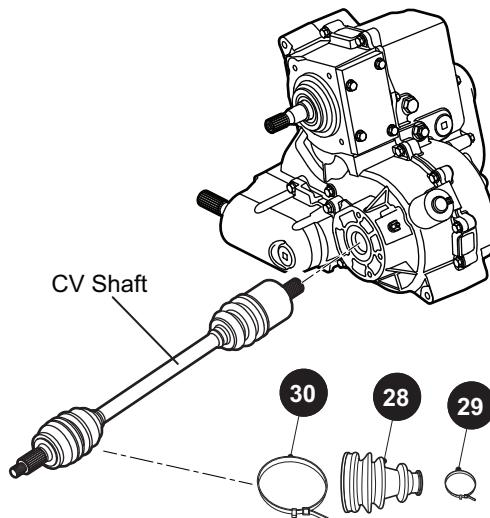

**Fig. 7 Hog Ring**
6. Remove the CV shaft from the differential using a pry bar. Make sure that the hog ring is in place on the CV shaft splines (Ref. Fig. 7).